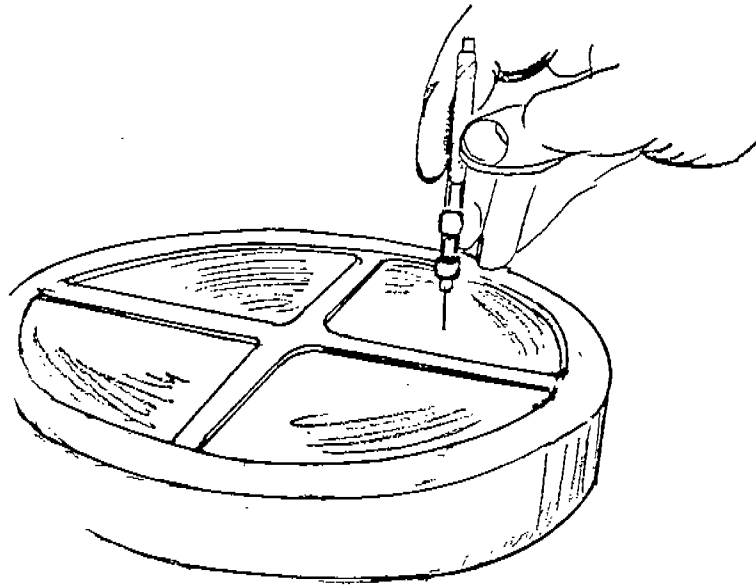

Figure 4. Wire Gauge Cannot Pass Through Flame Arrester
9. () A 0.018 inch wire gauge cannot pass through the openings of the flame arrester core as shown in Figure 4. The procedure for making this inspection (dated August 5, 1985) is attached.